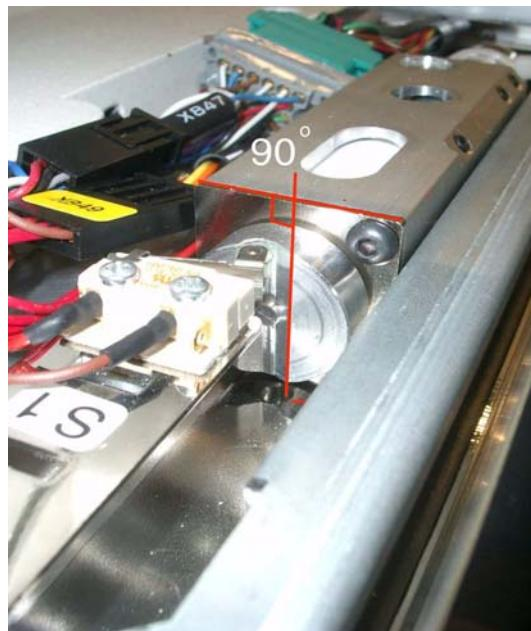

Fig. 7 Adjust grid motor wheel
2. Check if the slit is horizontal to the detector table (see Fig. 7).
4. Check if the slit is horizontal to the detector table (see Fig. 7).